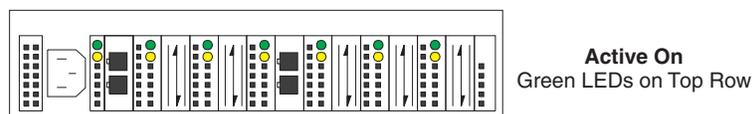

Figure 6. Active On
3. Check the Device Active (green) LEDs on the Fibre Channel Hub ports. See Figure 6.